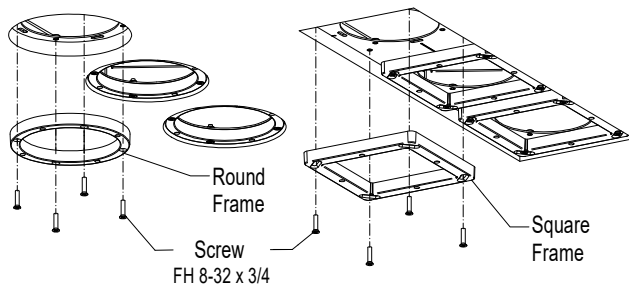

FIG 4.3 Install Frames
**Step 4** Install Frames to housing. **Note:** Round or Square Frames can be installed before or after ceiling board installation - FIG 4.3 & 4.4.
For all Trim types - Tighten trim against ceiling material using four Phillips screws in middle of trim - FIG 4.3. Once plaster or compound has been applied, no further adjustment to the trim is possible.